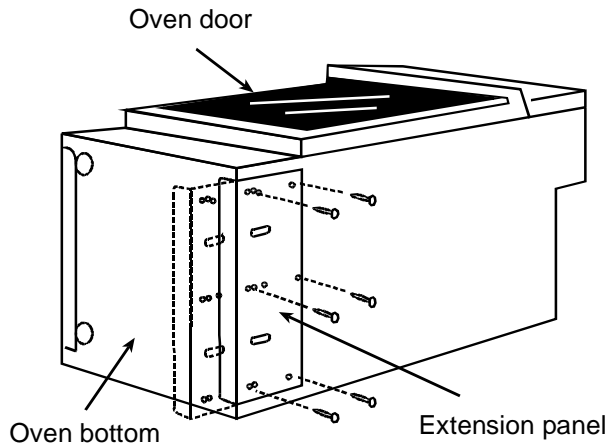

Figure 5 – Extension Panel
- For a cutout height greater than $28\frac{1}{8}$ " (71.4 cm) adjust extension panels. See figure 5.